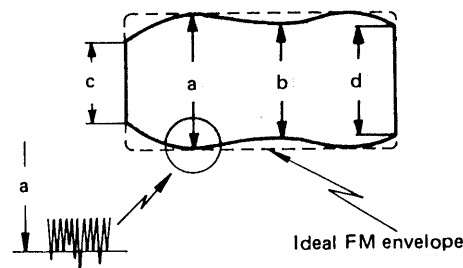

Fig. 2-29 FM waveform (max. output)
4. Refer to Fig. 2-29. Read the level of portion (a) of the waveform. If the waveform is serrated at point (a), read the value at the most uniform serrations as shown at left in Fig. 2-29.